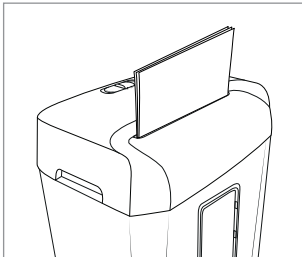

Fig. 2
- ◆ Insert paper into the middle of the cutter opening **8** from above and in portrait format (see fig. 2). The appliance starts automatically and switches itself off automatically if no further paper is inserted.
- ▶ Empty the waste collector ⑩ regularly to prevent the shredded material from being drawn into the cutting blades from below.
- ◆ Hold the cutter attachment ⑤ by the two integrated carrying recesses ⑦ on the left and right and pull it off the waste collector ⑩.
- ◆ Empty the waste collector ⑩.
- ◆ Hold the cutter attachment ⑤ by the two integrated carrying recesses ⑦ and position it over the waste collector ⑩ so that the power cable ① points backwards and the viewing window ⑨ in the waste collector ⑩ points forwards (see fig. 2).